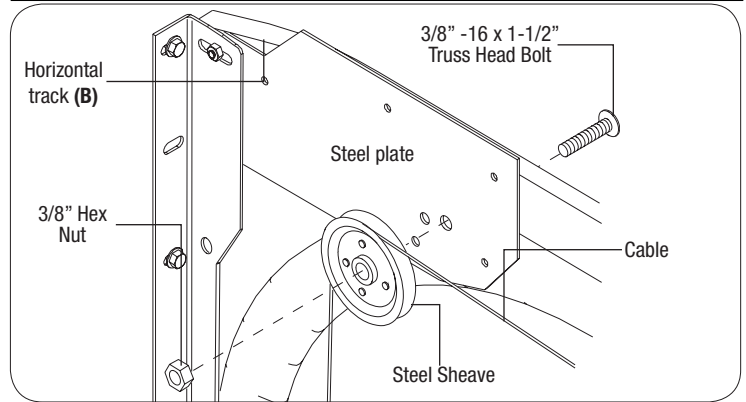

FIG. 11.2
Using the appropriate hole in the sheave plate as a guide, drill a 13/32" dia. hole through the sheave plate and track (see Figure). Place a 3/8-16 x 1-1/2" truss head bolt through the drilled hole and slide a steel sheave over the end of the bolt as shown. Secure the sheave using (1) 3/8" hex nut. Repeat for the other side, then loop the counterbalance cables over each sheave, as shown in **FIG. 11.2**.